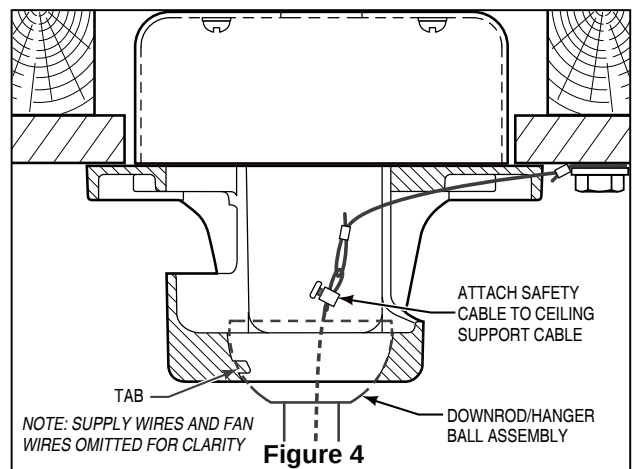

Figure 4
- ☐ 4. Slide downrod into the downrod support on top of the motor. Install the clevis pin by aligning the holes in the downrod support with holes in the downrod. Secure clevis pin with hairpin clip. Tighten the two set screws with nuts in the downrod support. (Figure 4)
- ☐ 4. Carefully lift the fan and seat the downrod/hanger ball assembly on the hanger bracket that was just attached to the outlet box. Be sure the groove in the ball is lined up with tab on the hanger bracket (Figure 4)
- ☐ 5. Attach the safety cable to ceiling support cable. Slide cable clamp onto safety cable (from fan). Place the end of cable through the loop of ceiling support cable. Pull as much cable through loop as possible. Feed end of cable into clamp hole and firmly tighten screw (Figure 4).